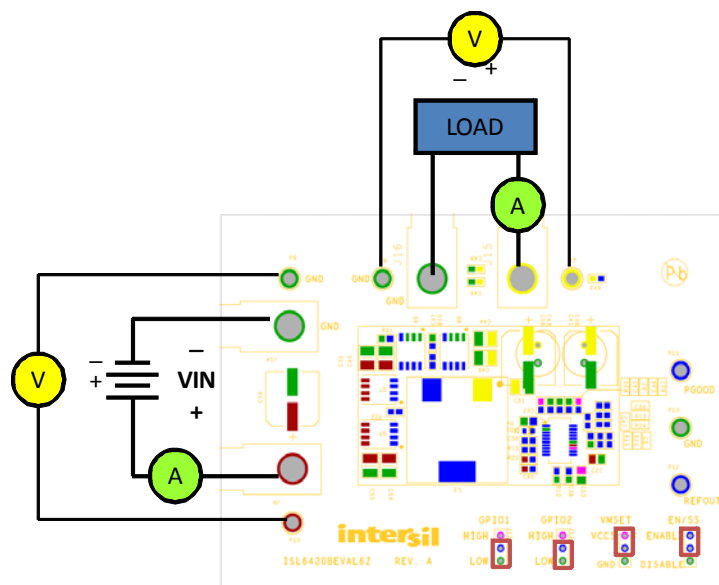

FIGURE 2. ISL6420BEVAL6Z TEST SET-UP
1. Ensure that the evaluation board is correctly connected to the power supply and the electronic load prior to applying any power. Please refer to Figure 2 for proper set-up.